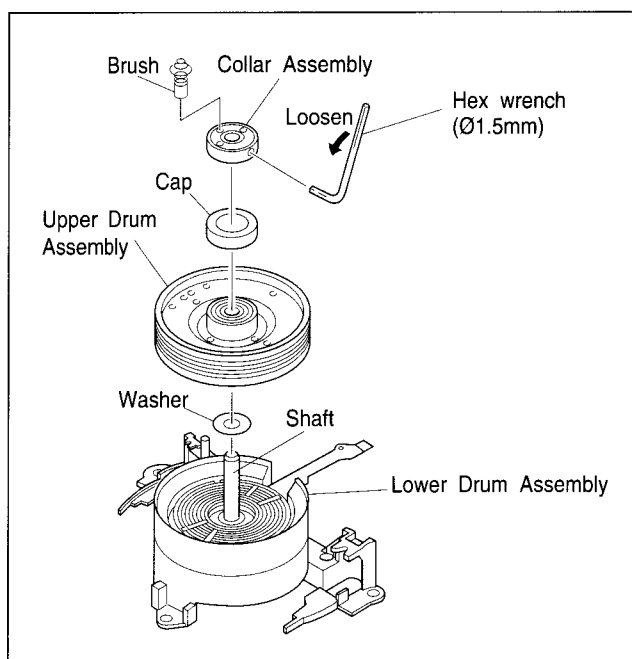

Fig. 1-5-25
- (1) Use an air brush to clean the lower drum assembly and the coil section of the new upper drum assembly.
- (2) Set a new washer on the drum shaft as indicated in Fig.1-5-25.